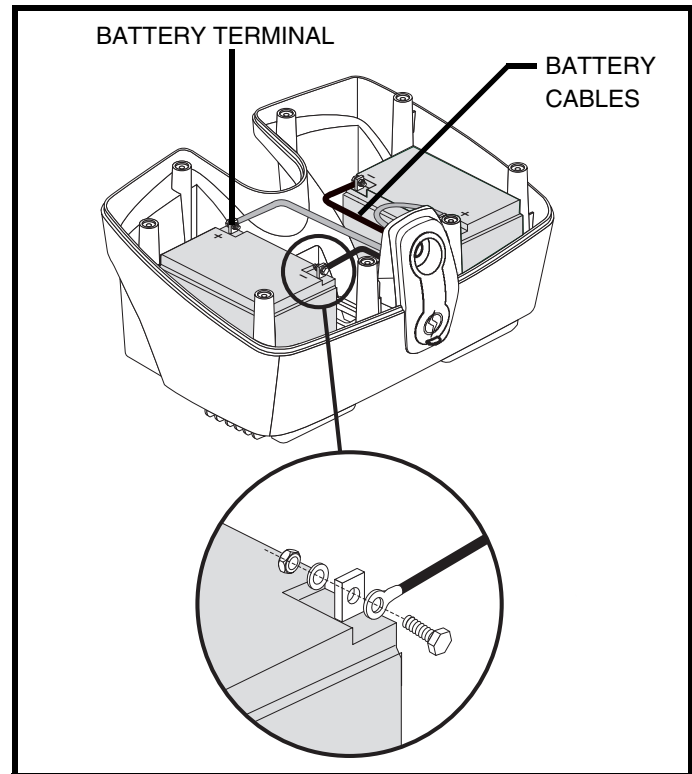

Figure 14. Battery Replacement
1. Position your Travel Scooter or battery pack close to a standard electrical outlet. **See figure 14.**